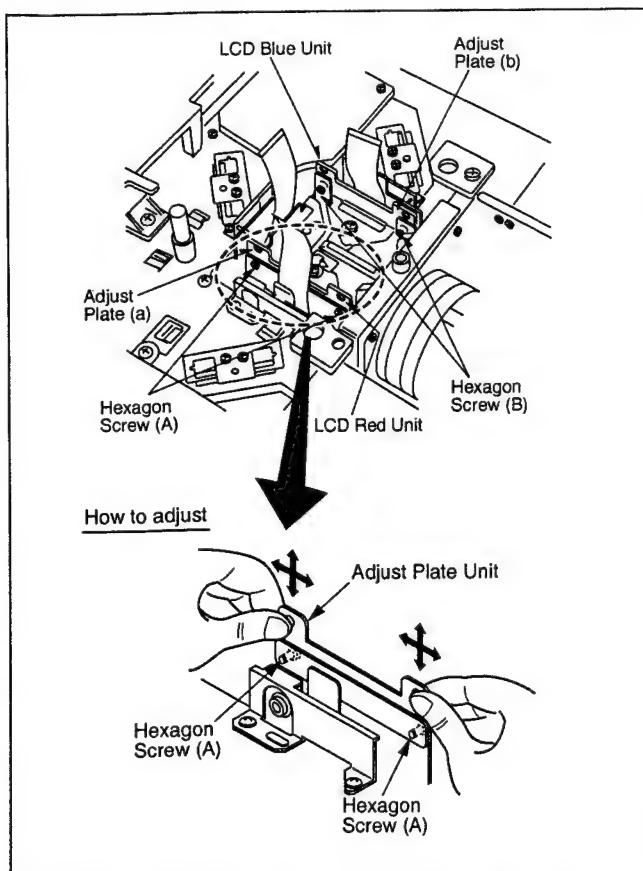

Fig. E9-1
Loosen 2 Hexagon screws (A) of LCD RED Unit as shown in Fig. E9-1.
3. Tighten 2 Hexagon screws (A) with a Hexagon Wrench.
Loosen 2 Hexagon screws (B) of LCD BLUE Unit as shown in Fig. E9-1.